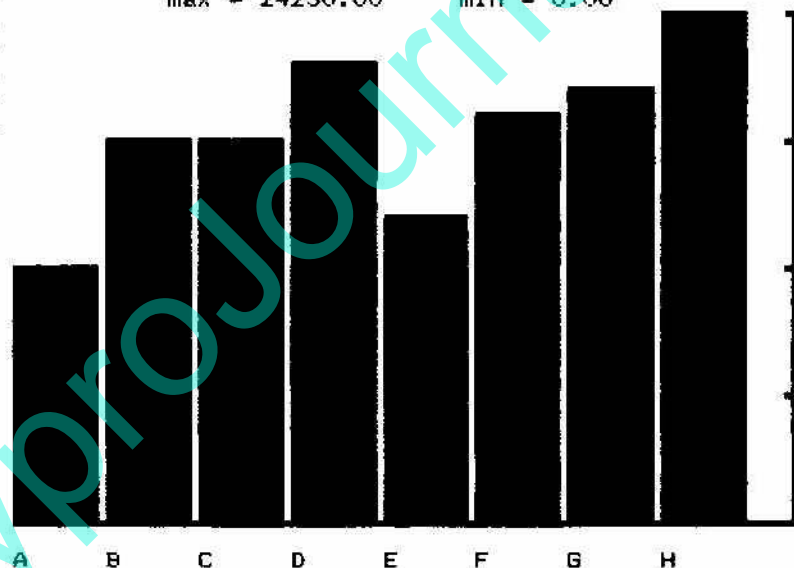

Figure 8: Preliminary SALES Chart
Enter the remaining seven data points by pressing "A" to (A)dd each one. Type in the appropriate LABEL and VALUE for each, along with a "B" for INTENSITY and a 6 for WIDTH. For each successive data point add six to the previous LOCATION value. When you've finished, you should have bars stationed at LOCATIONS 1, 7, 13, 19, 25, 31, 37, and 43. Check your work often with the (V)iew command. If everything has gone right up to this point your (V)iewed chart should look like Figure 8.